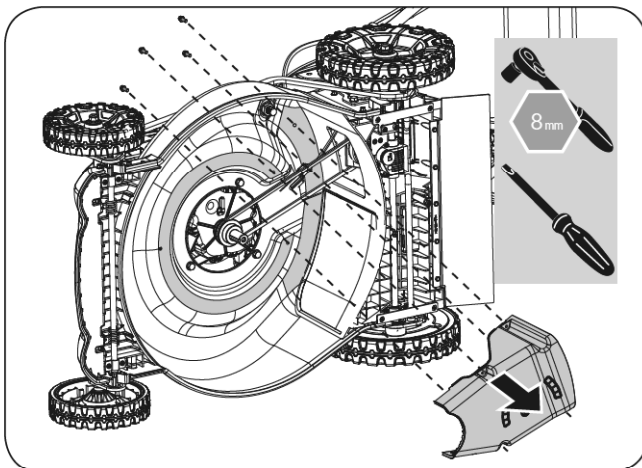

Figure 34
- Remove the belt cover. (See **Figure 34**)